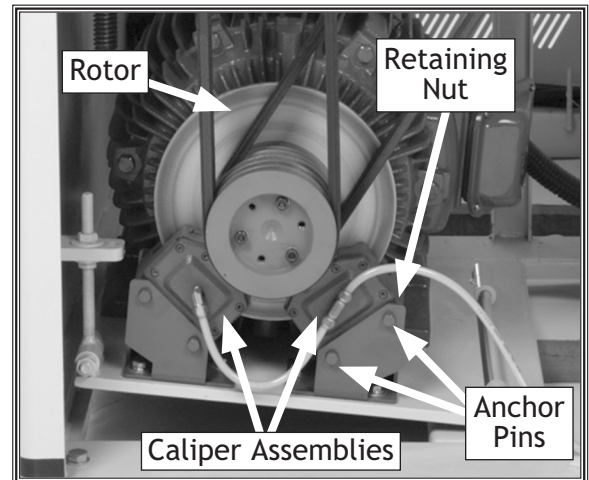

Figure 32. Disc brake assembly (Model W1757 shown).
Eventually the brake pads will wear out. Checking and replacing these is a simple project that can be done in the shop, with the exception of having the rotor resurfaced on a lathe. The brake pads are located underneath the rotor in **Figure 32**, which is attached to the motor arbor.
2. Remove the nuts and washers from the two anchor pins on each brake caliper (**Figure 32**).